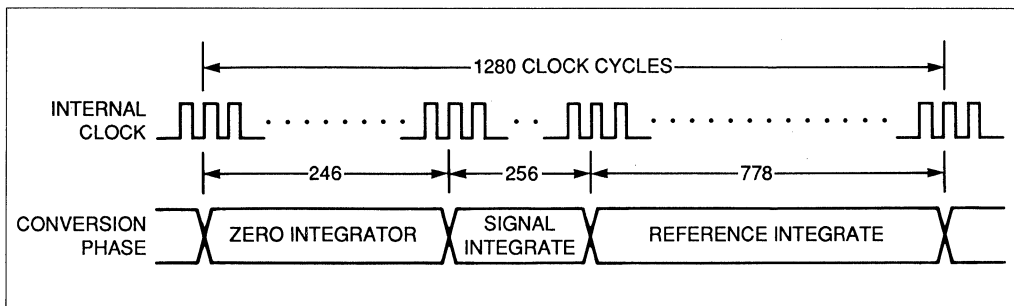

Figure 4. TSC850 Conversion Timing
Each TSC850 conversion consists of three phases: (1) Zero Integrator, (2) Signal Integrate, and (3) Reference Integrate. Each conversion cycle requires 1280 internal clock cycles (Figure 4).